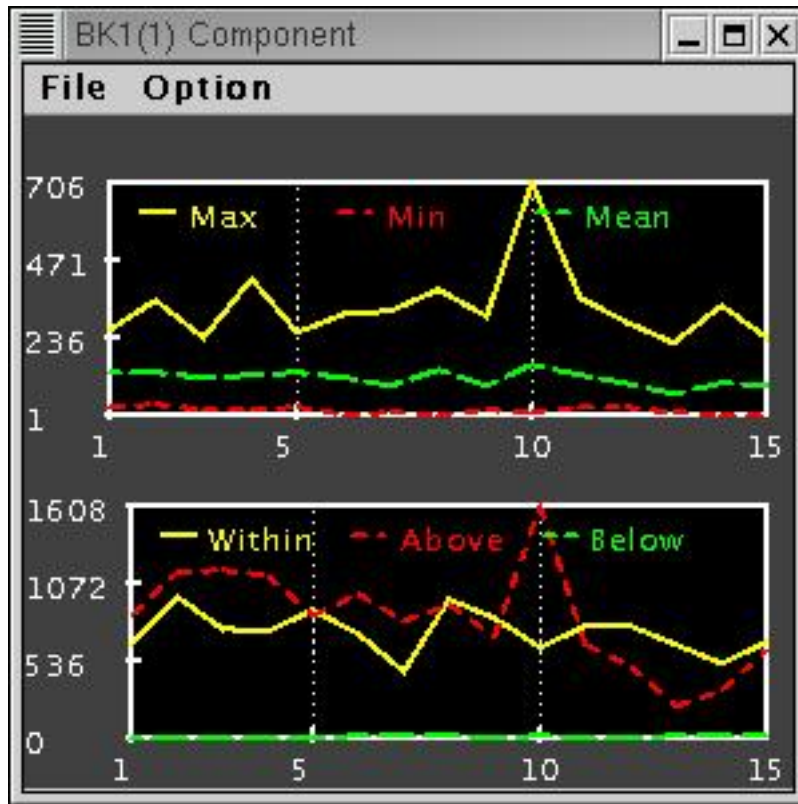

Figure 3: Example of a block graph - not all blocks within specified min and max values
**Graph 2)** The lower graph of the pair shows 3 additional lines that give the accumulated areas of different categories of blocks. One line shows the total area of all blocks that are within the min and max blocksize limits specified on the block form. Another line shows the total area of blocks that are below the specified size minimum. The third line shows the total area in blocks that are above the specified size maximum. These lines are labeled *Within, Above and Below*. Figure 3 is an example of what you might see for a 15 year planning horizon, when not all blocks are within the specified min and max values.